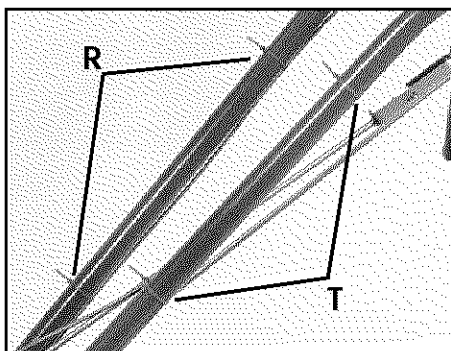

Figure 2-14: Proper plastic tie placement.
7. Secure the throttle cable to the right-side handlebar with two plastic ties (R, Figure 2-14) located about two feet apart. The serrated side of the tie should be on the inside of the loop. Snip off any excess tie length with scissors.
5. Secure the cable to the left-side handlebar with two plastic ties (T, Figure 2-14) located about two feet apart. Snip off any excess tie length with scissors.